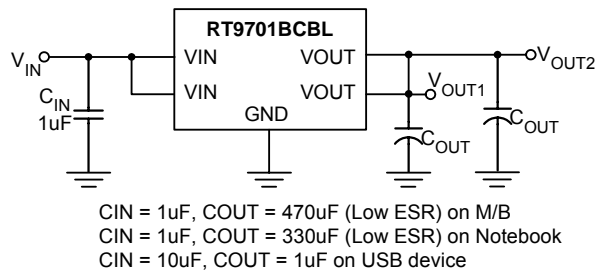

Figure 1. High Side Power Switch
- If the package is with dual VOUT or VIN pins, short both the same function pins as Figure 1 or Figure 2 to reduce the internal turn-on resistance. If the output power will be delivered to two individual ports, it is specially necessary to short both VOUT pin at the switch output side in order to protect the switch when each port are plug-in separately.